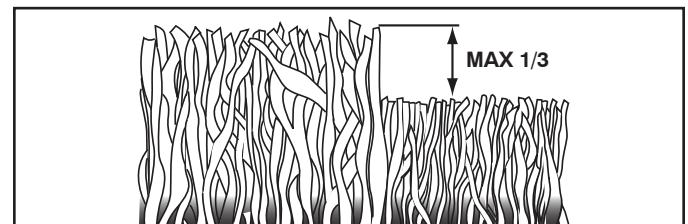

Fig. 37
- For best results, adjust the mower cutting height so that the mower cuts off only the top one-third of the grass blades (See Fig. 37). For extremely heavy mulching, reduce your width of cut on each pass and mow slowly.